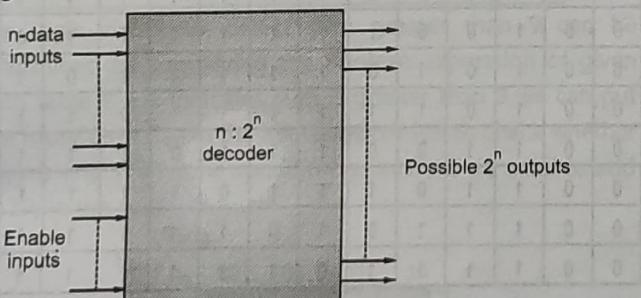

Fig. 2.43 : Structure of decoder
- Fig. 2.43 shows the structure of the decoder circuit.
- As shown in Fig. 2.43 the encoded information is presented as n inputs producing 2^n possible outputs. The 2^n output values are from 0 through $2^n - 1$.